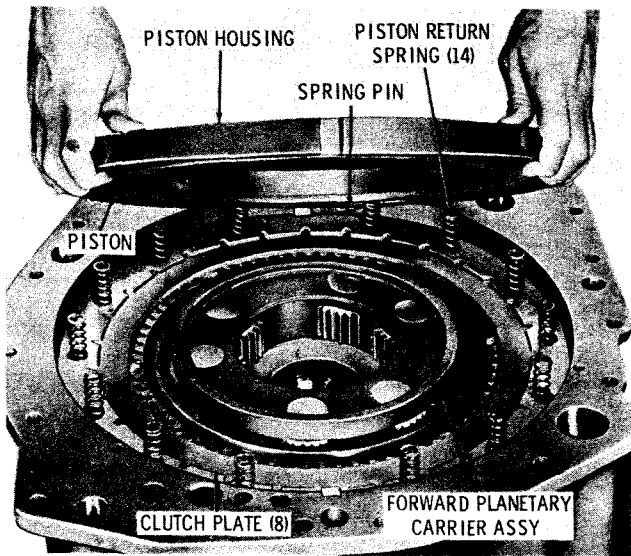

Fig. 5-28. Removing forward clutch piston housing (5631 models)
(2) Remove the piston housing (fig. 5-28). Remove the spring pin from the recess in the transmission housing.
(3) Remove the piston from the piston housing (fig. 5-28). Refer to paragraph 6-15 for piston rebuild procedures.
(4) Remove 14 piston return springs and the forward planetary carrier assembly (fig. 5-28). Refer to paragraph 6-16 for carrier rebuild procedures.
(5) Remove the first four clutch plates (fig. 5-28).